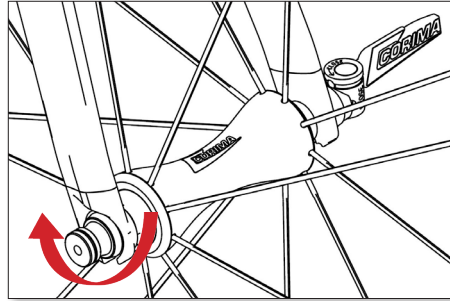

Figure 5
- Hand tighten the nut (**Figure 5**).